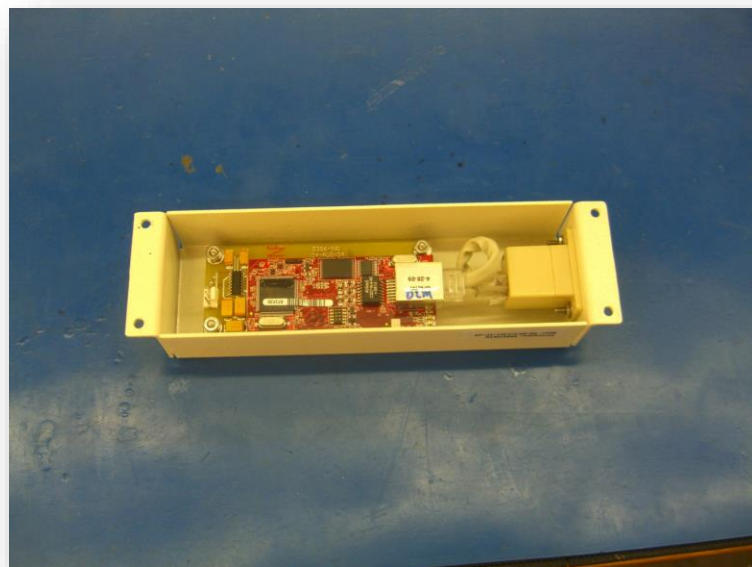

Figure 46 – External Rabbit Ethernet Board disconnected
2. Disconnect the 3-pin MTA connector from the Ethernet board to separate it from the area monitor. See Figure 46.